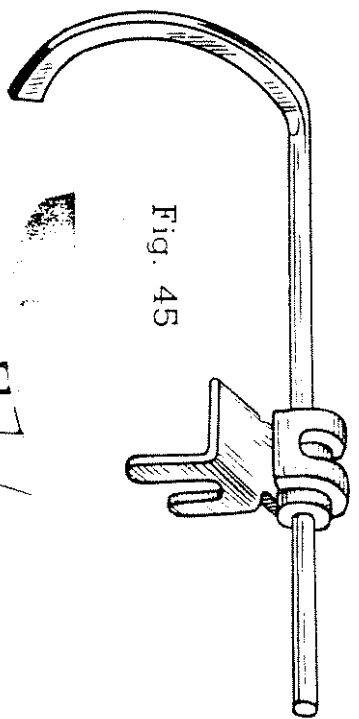
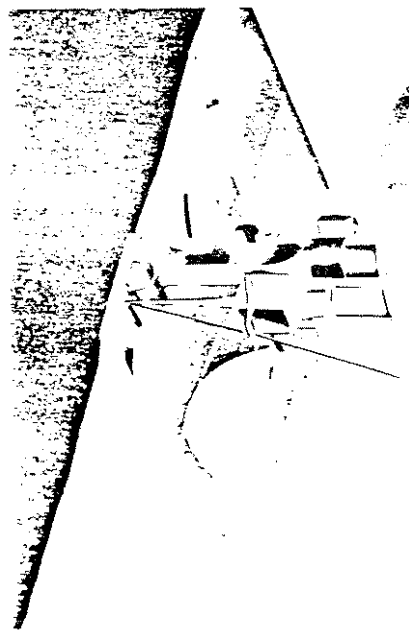

Fig. 45
Fig. 48
Use this guide for making parallel rows of straight or decorative stitching. Attach standard presser foot. Slip U shaped holder on guide under presser foot thumb screw from the back and tighten screw (Fig. 45). Adjust the curved bar for the distance desired between rows of stitches and set so it presses slightly on the fabric. By letting the guide ride on the previous stitching line, successive rows will be an equal distance apart. Fig. 48
10. Quilter Guide Fig. 45